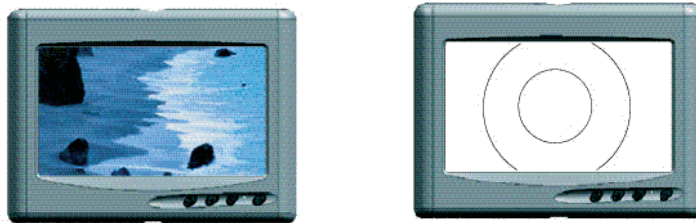

Fig. 4
**Cinema Mode:** Expands the source video in the vertical and horizontal dimensions to fill the display screen (Fig. 4). Letterbox format DVD disks will have little or no bars showing in this mode, while 4:3 & 16:9 aspect video sources will be expanded beyond the boundaries of the screen, appearing cropped.